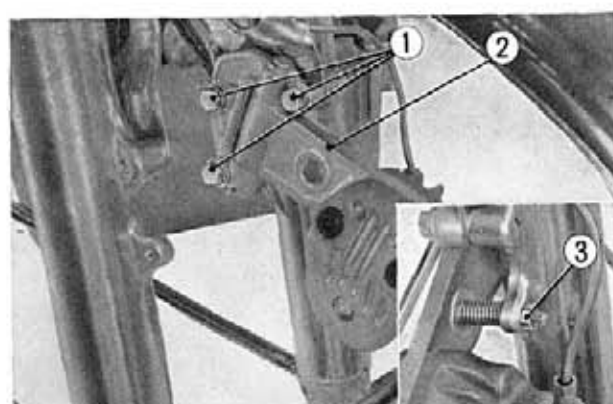

Fig. 11-11 ① Caliper setting bolts
② Caliper assembly ③ Adjuster nut
2. Remove the three caliper setting bolts and adjuster nut, and separate the caliper from the left front fork. (Fig. 11-11)